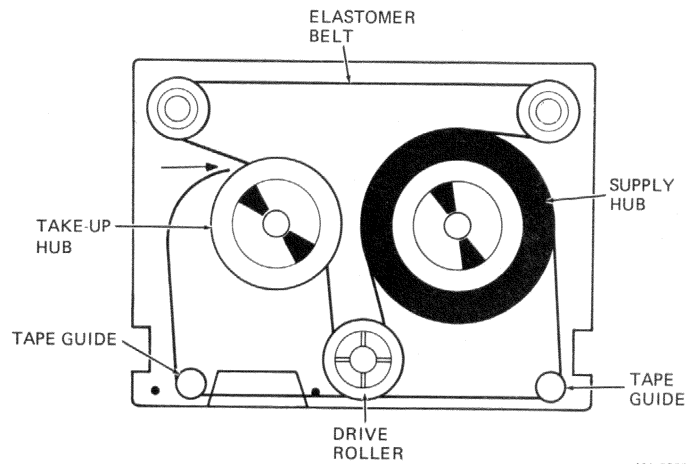

Figure D-2 Threading the Metal-Base Cartridge
3. Thread the end of the tape around the tape guides (Figure D-2).